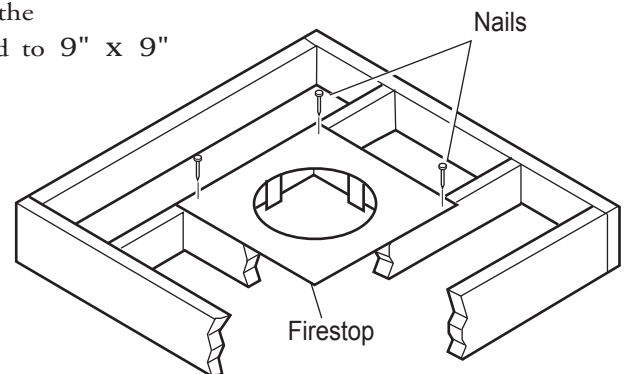
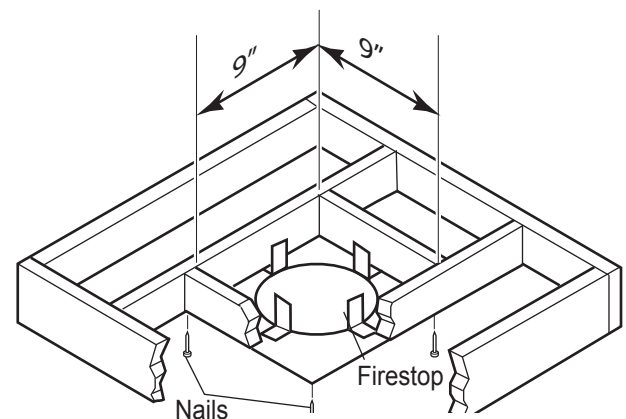

Figure 28- If area above is a room, install firestop above framed hole as shown
Figure 29 - If area above is not a room, install firestop below framed hole as shown
1. Cut a 9" x 9" (229mm) square hole in the ceiling using the locating hole as a center point. The opening should be framed to 9" x 9" (229mm x 229mm) inside dimensions as shown in *Figure 12*, page 17 using framing lumber the same size as the ceiling joist. If the area above the ceiling is an insulated ceiling or a room, nail firestop from the top side. This prevents loose insulation from falling into the required clearance space. See *Figure 28*. Otherwise, install firestop below the framed hole. The firestop should be installed with no less than three nails per side. See *Figure 29*.